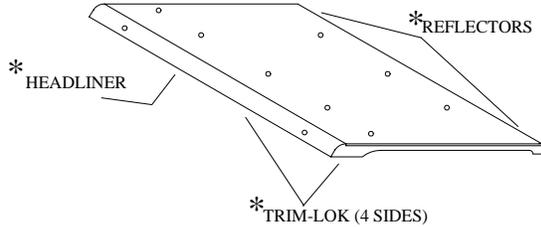

Fig. 13.1
13.1 Apply lubricant (preferably grease) to the pin hinges mounted on the side frames as shown in Figure 13.1. With assistance, install the doors onto the pin hinges by guiding both hinge sleeves onto their respective pin hinges. Work the doors back and forth until the hinges are completely seated. Note: the hinges, inside latch, and striker pin can be adjusted for proper engagement. The rotary latch should be adjusted to get two (2) “clicks” when latching.